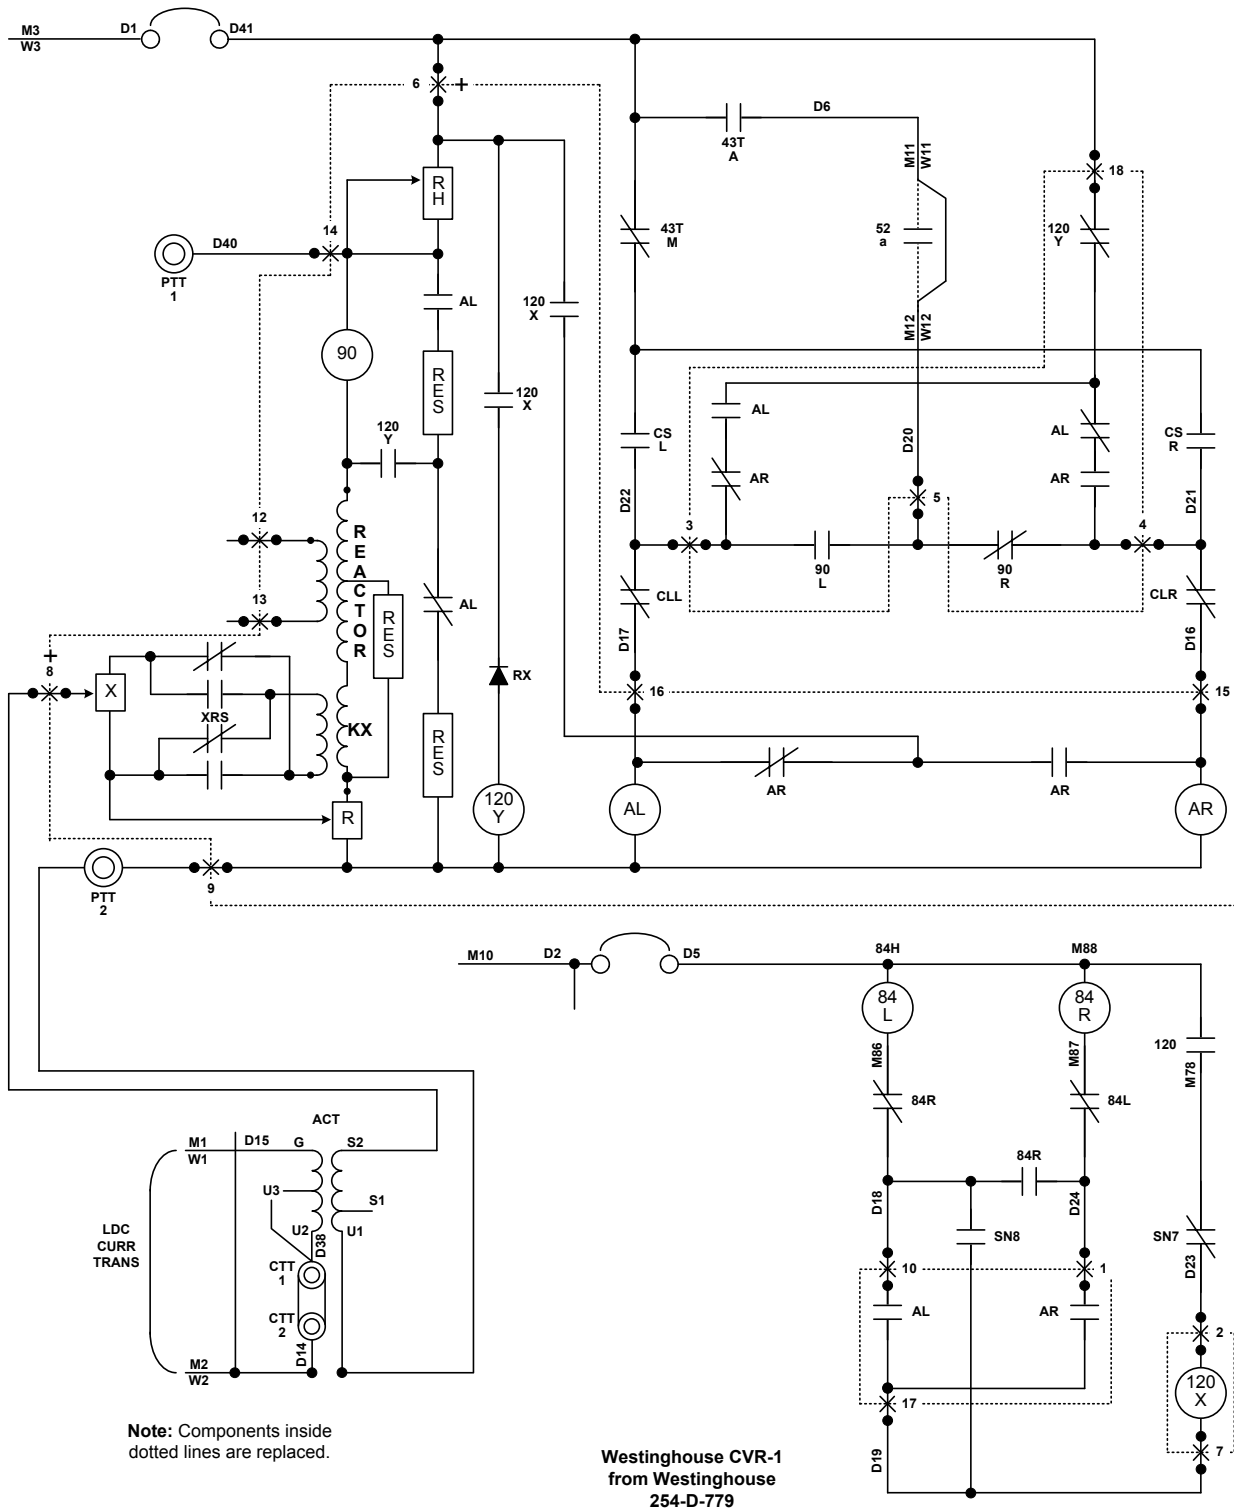
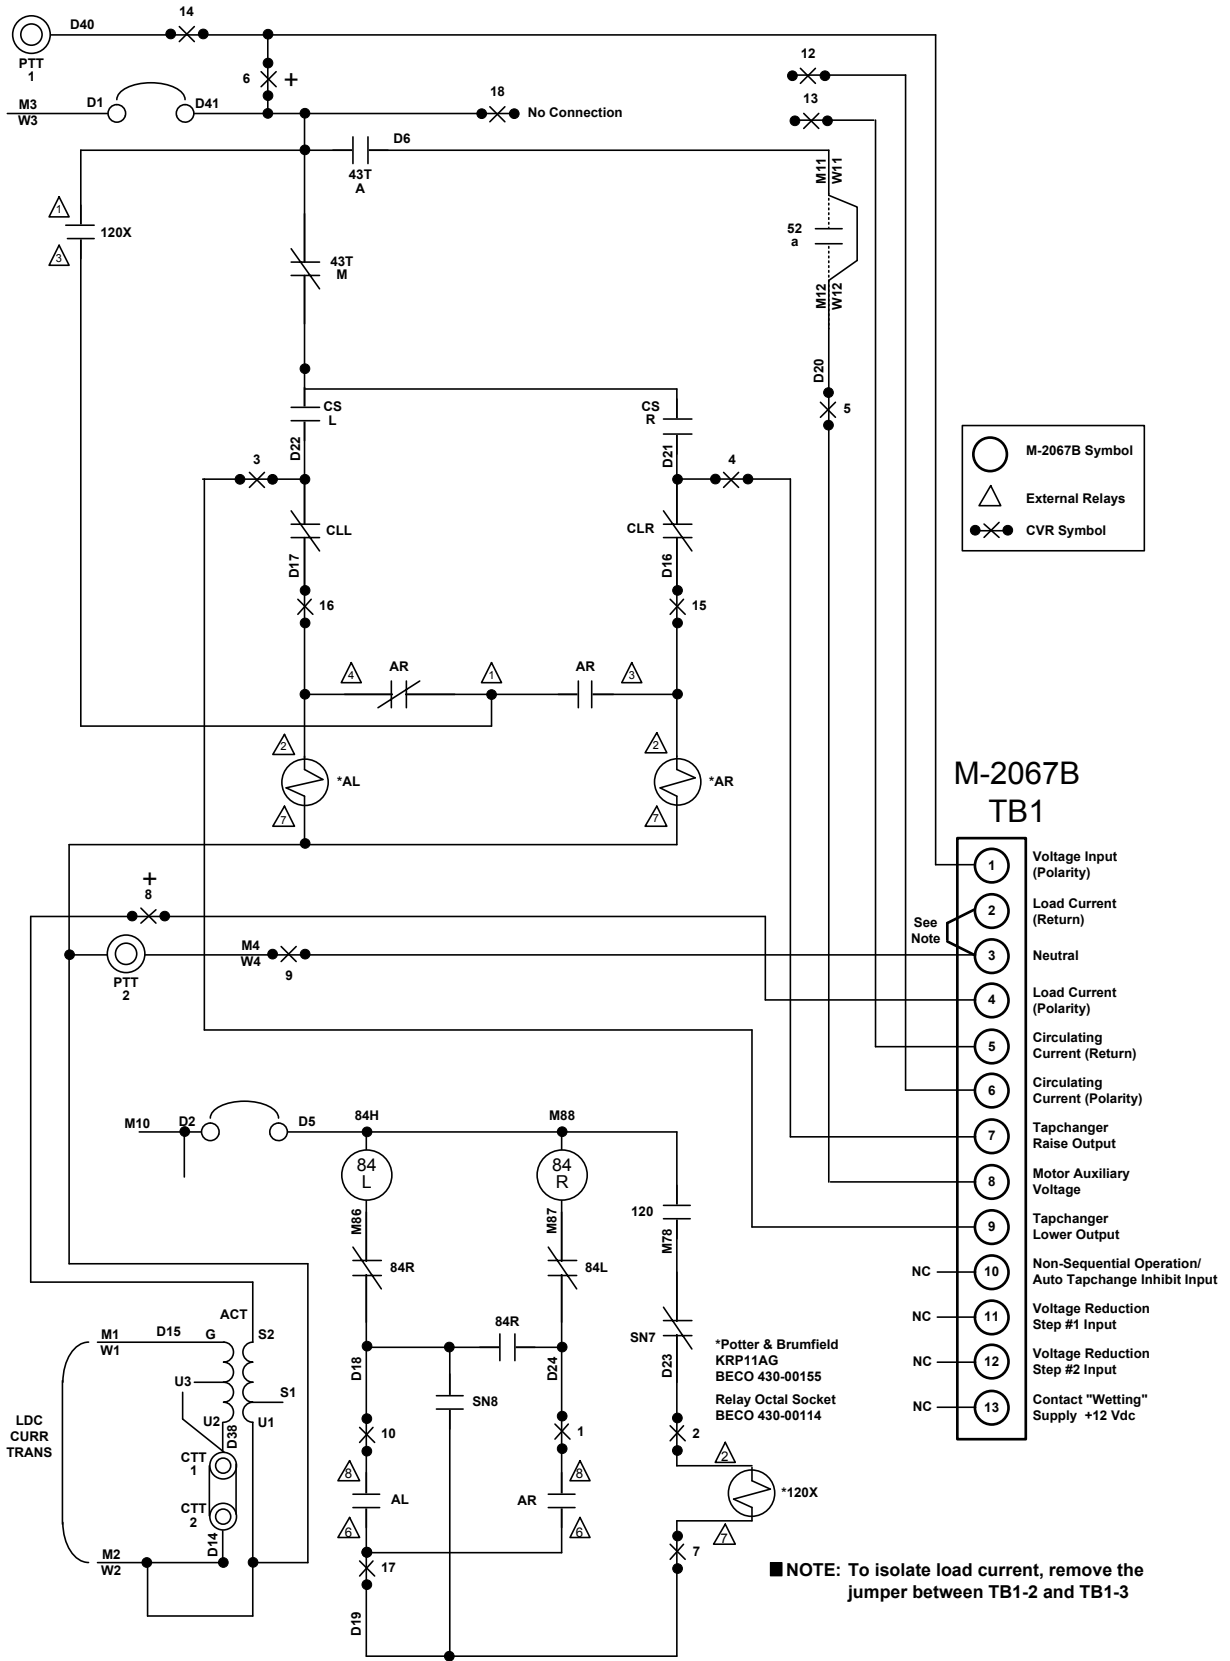

Figure 12 Westinghouse CVR-1 Replacement
Figure 13 Westinghouse CVR-1 Replacement With M-2067B
■ **NOTE:** The terminal block of the CVR/CVC and the TB1 terminal block of the M-2067B are not the same; refer to Table 3, Figure 12 and Figure 13.